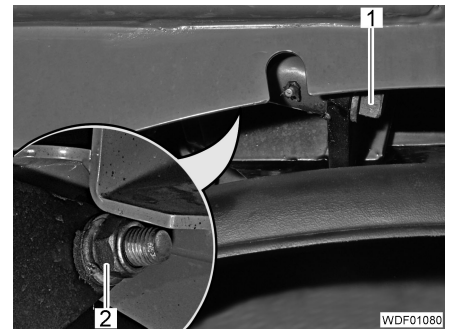

Fig. 462 Cab attachment (rear)
- Unscrew the nut (Fig. 462,2).
- Drive out the hinge pins (Fig. 462,1) forwards.